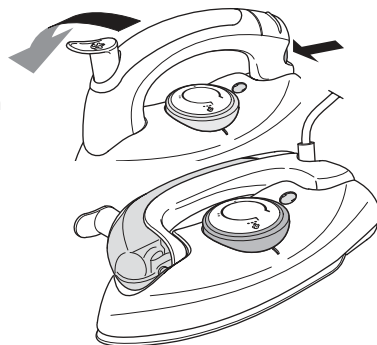

Figure 5 Folding the handle
6. Fold the handle back by pressing the button that is located on the rear of the handle whilst pushing the handle downwards (see figure 5).